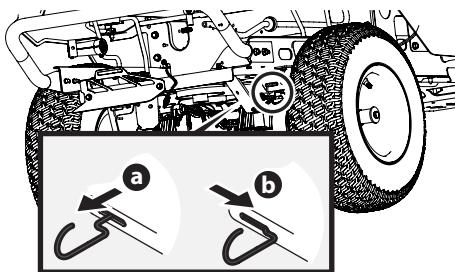
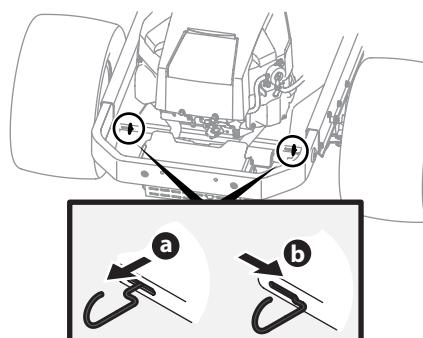

Figure 2-1
Figure 2-2
1. Engage the transmission bypass rods, one on each side of the tractor, to move the tractor manually without starting it. The transmission bypass rods are located on the rear of the tractor, just inside each rear wheel. Engage the bypass rods by pulling each one out (a) and to the right (b) to lock it into place. See Figure 2-1 for 34" deck tractors, see Figure 2-2 for all other tractors.
2. Disengage the bypass rods by reversing the steps after moving the tractor. See Figure 2-1 for 34" deck tractors and Figure 2-2 for all other tractors.